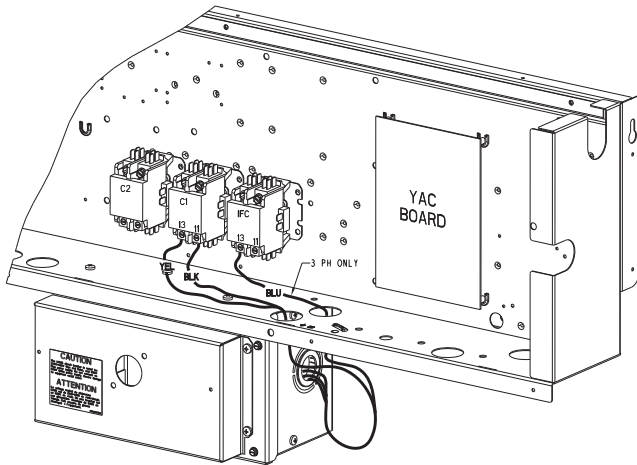

Fig. 35 — HACR Enclosure Location
2. Remove (3) hex screws on the HACR enclosure - (2) on the face of the cover and (1) on the left side cover. See Fig. 35.